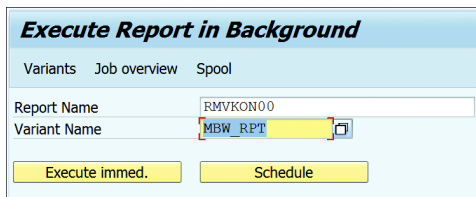

Figure 14.17 Scheduling Report Execution
2. On the EXECUTE REPORT IN BACKGROUND screen, provide the selection screen VARIANT NAME that should be used to run the report. Here, you can choose to run it immediately (via the EXECUTE IMMED. button) or schedule it to run at a later time (via the SCHEDULE button; see Figure 14.17).